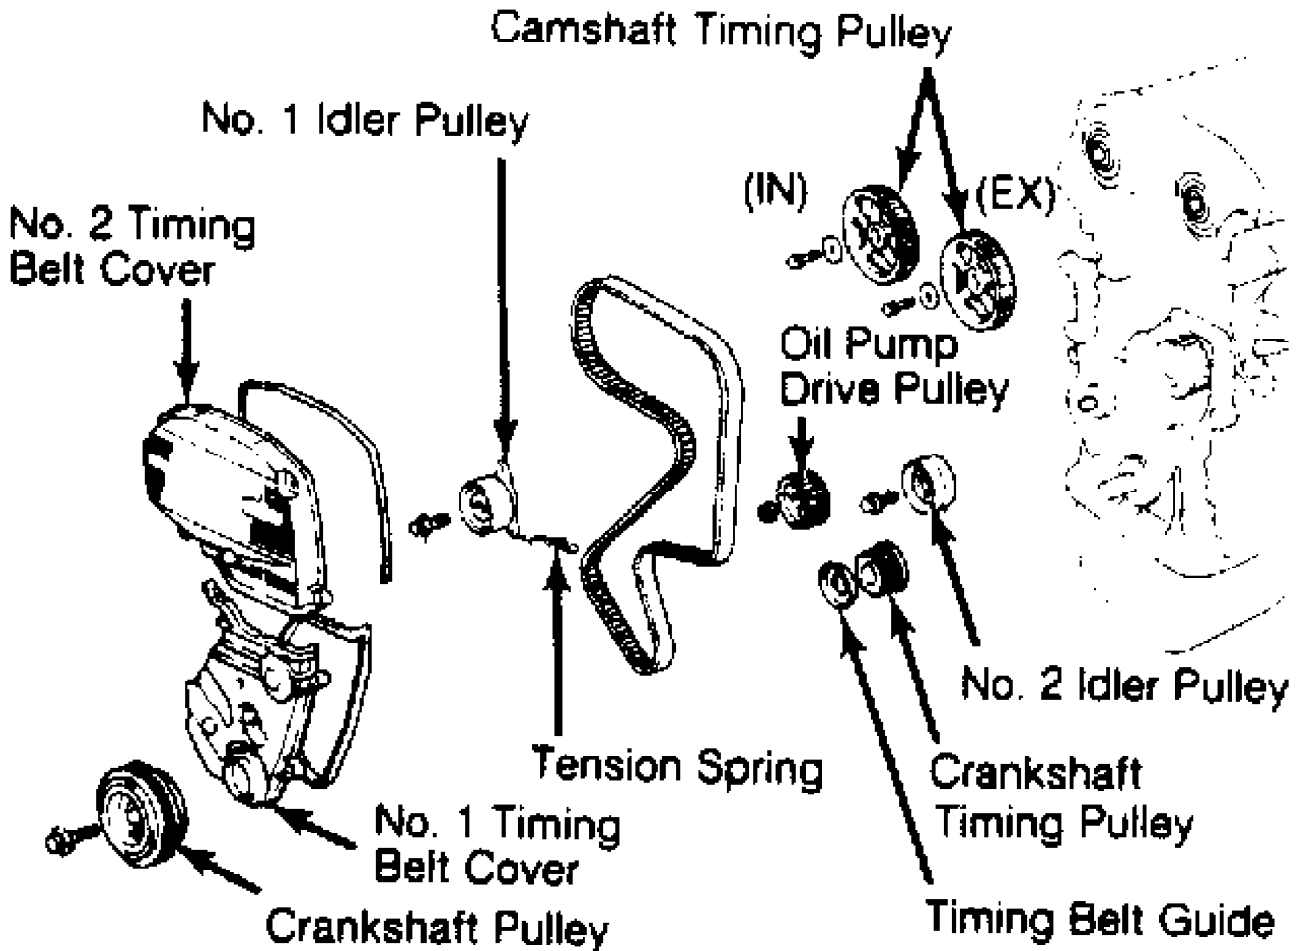

Fig. 4: Exploded View of 3S-GE & 3S-GTE Timing Belt Components
1) Remove negative battery cable. Remove right front wheel, lower engine cover, and radiator reservoir tank. Remove cruise control actuator with bracket (if equipped). Position power steering fluid reservoir tank out of way. Remove alternator drive belt, alternator and bracket. See Fig. 4.